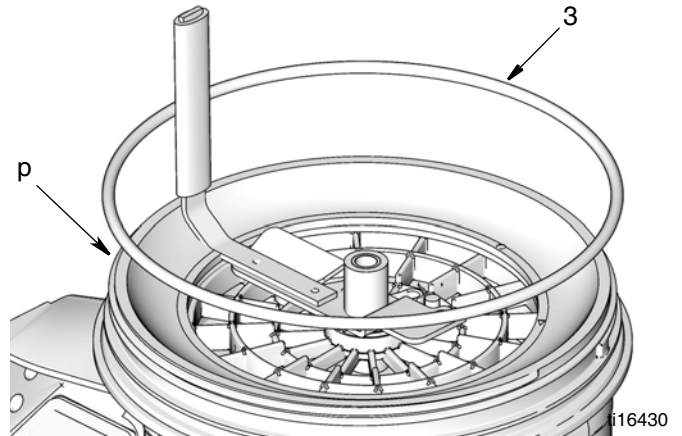

FIG. 18
1. Grease new o-ring (3) (included in kit) and install o-ring around reservoir adapter (p) as shown in (FIG. 18).